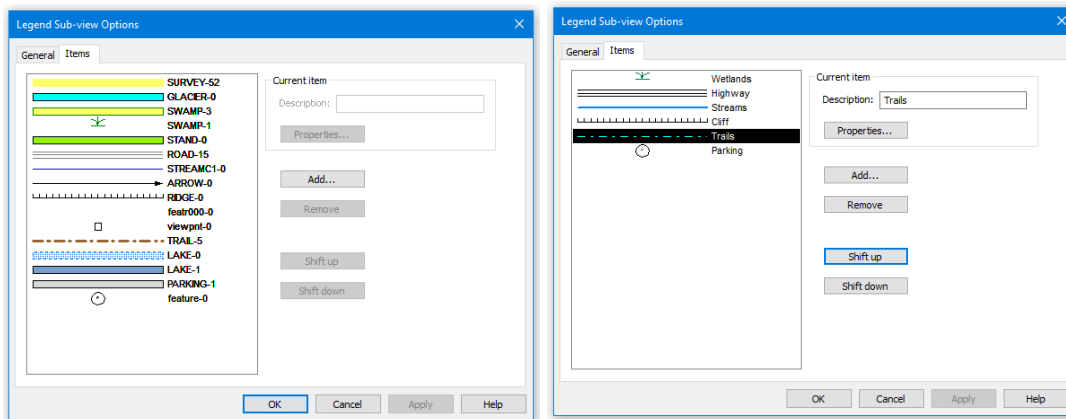

Figure 3-33: Legend Sub-View Options Dialogue Boxes
12. Re-size and re-position the legend directly below the plan sub-view and on the left side of the page as shown in Figure 3-33.